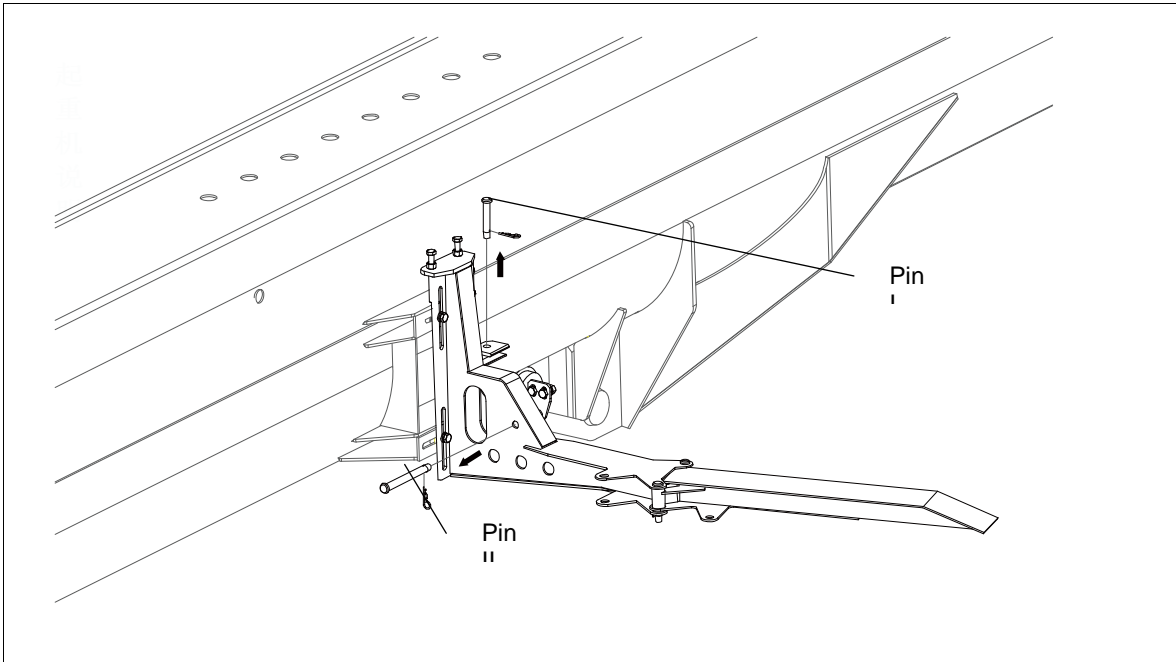

Figure 7-35 Pins I and II removal
- H. Extend the bracket and remove the pins I and II. Refer to Figure 7-35.